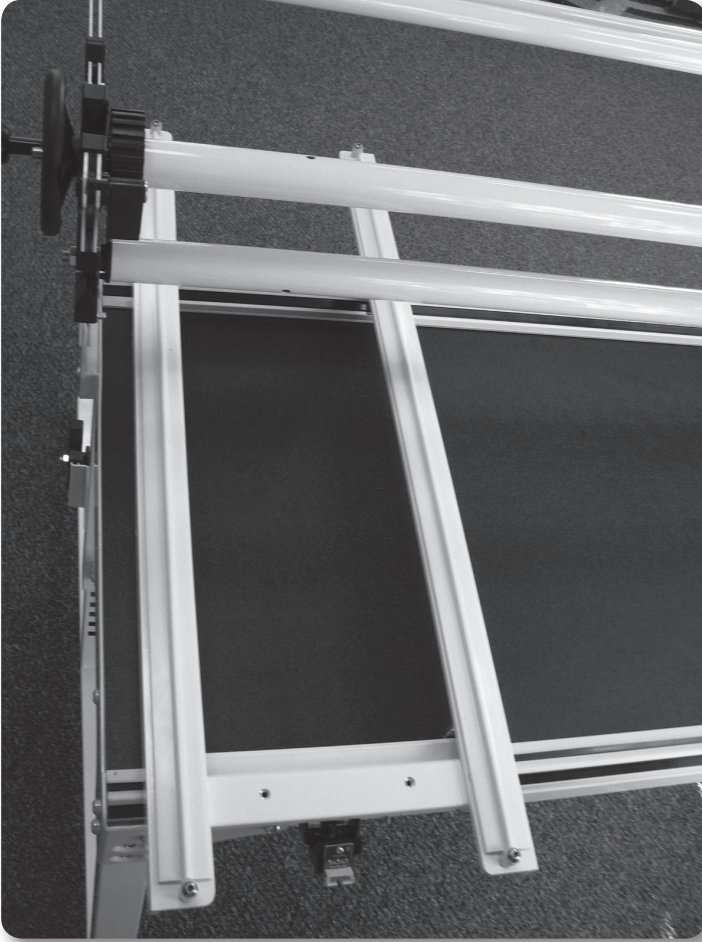

Figure 4
1. Place the carriage on the table rails, ensuring that the Carriage Encoder Assembly will be toward the back of the machine (the power cord side of the machine). The back side of the carriage has an encoder assembly attached to the rear cross-piece. Be sure to place the carriage on the frame correctly (see Figure 4).